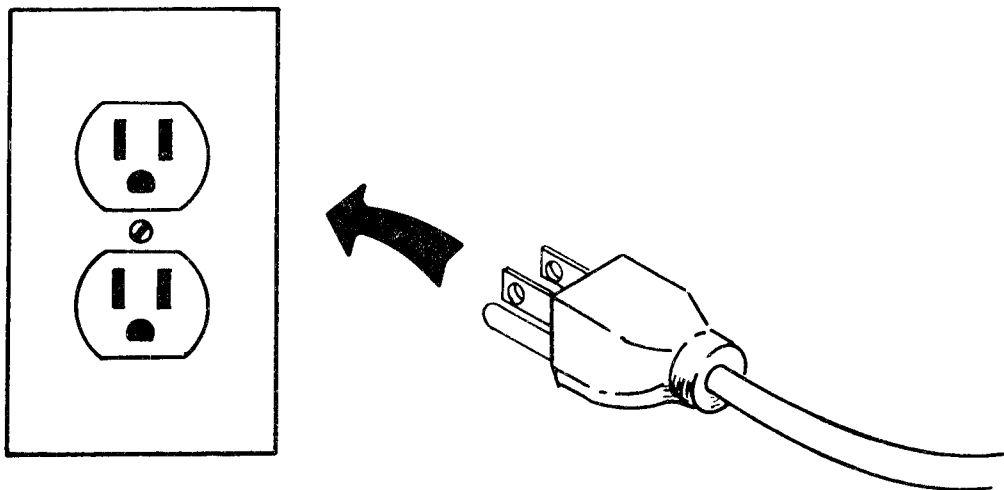

Figure 62. Plug Power Cord Into Power Source
- d. Plug the power cord into a power source (see Figure 62).